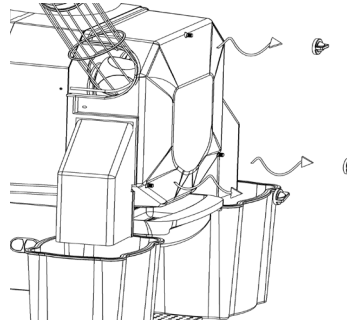

Figure 8
4- By unscrewing female screws (46) remove the front cover (44) (**Figure 8**).